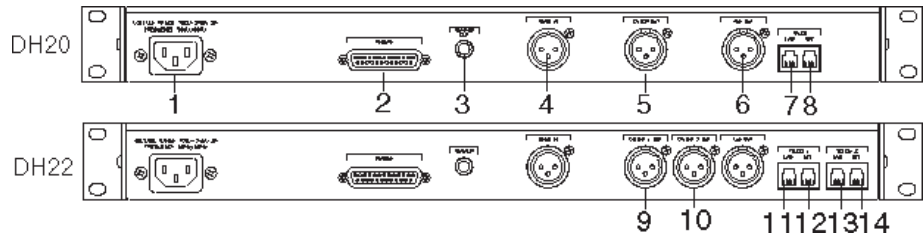
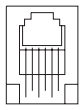

Figure 3. Digital hybrid models back-panel connectors (Top) DH20, (Bottom) DH22
Figure 7. RJ11C telephone-line connector
1. *Power*. The AC power cord input (See Figure 3, below.) is a NEMA type connector allowing 100–240Vac, 50/60Hz.
Line. Plug your telephone line from the telephone company into the RJ11C LINE jack [7] (Figure 3, previous page; Figure 7, left).
Line. Plug the *first* of your telephone lines from the source into the RJ11C LINE jack [11] (Figure 7, left). Plug the *second* of your telephone lines from the source into the second RJ11C LINE jack [13].